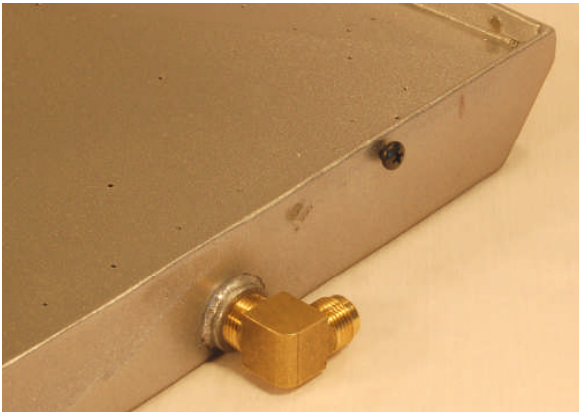

FIGURE 7 – PILOT MOUNTING SCREW LOCATION
- 2- Using a #2 Phillips Screw Driver, remove the #2 Phillips 3/8 #10 sheet metal screw from the pilot mounting bracket hole, located on the rim, on the gas feed side of the appliance. (SEE FIGURE 7)